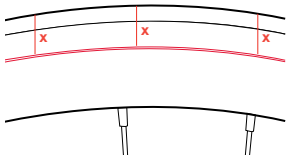

Figure 8. Correct. Make sure the mold line of the tire is equal (X distance) with the rim all the way around.
9. Check for correct tire bead engagement in the rim (Figures 8 and 9). Most tires have a mold line near the bead of the tire where it engages the rim. All the way around the rim, the distance between the mold line and the top edge of the rim must be even and equal. If the distance is not equal, deflate the tire and repeat steps 7 and 8.
12. Re-check for correct tire bead engagement (Figure 8 and 9).